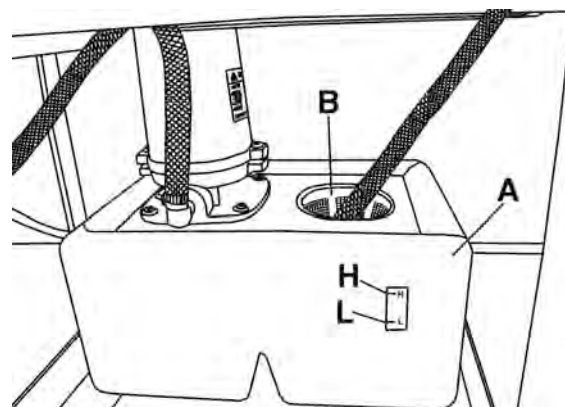

FIGURE 21
Remove the rear panel of the cabinet base to access the coolant reservoir (A) Fig.21. Fill the reservoir with your chosen cutting fluid solution (see your nearest car parts or industrial machinery dealer for more information) through the opening (B). Do not fill above the "H" (high) mark (H) on the reservoir, fill again with coolant fluid solution before the level gets below the "L" (low) mark (L), or else you could damage the coolant pump. Reposition the rear panel of the cabinet base.
WARNING! Clean the cabinet chip screen so coolant can recycle back to the coolant reservoir. If the coolant level gets below the "L" (low) mark (L) Fig.21, you risk damaging the coolant pump.